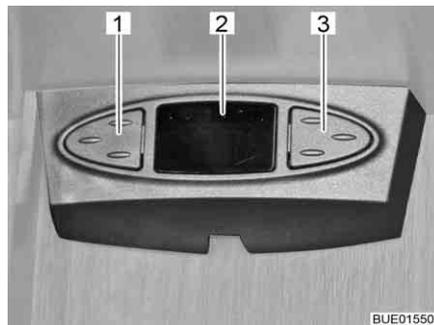

Fig. 56 Satellite mouse
Depending on the model, the satellite receiver is equipped with a satellite mouse. The satellite mouse's display (Fig. 56,2) shows the current channel. The two buttons can be used to operate the basic functions of the satellite unit (changing channel, switching on/off).
- Choosing the previous channel from the list: Press left button (Fig. 56,1).
- Choosing the next channel from the list: Press right button (Fig. 56,3).
- Switching between radio and TV: Press the buttons (Fig. 56,1 and Fig. 56,3) briefly at the same time.
- Switching the receiver on/off: Press and hold the buttons (Fig. 56,1 and Fig. 56,3) at the same time.